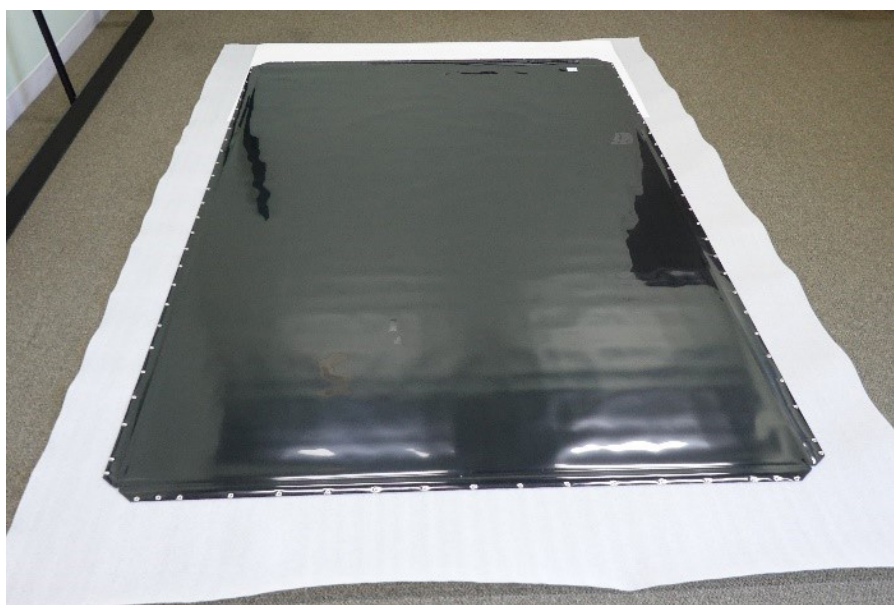

Figure 7: Roll screen out, viewing side down
1. Roll the screen out onto a drop cloth on the floor with the viewing side facing down (see Figure 7).